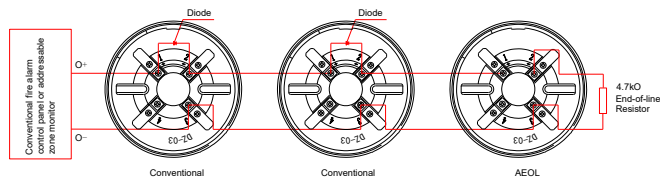

Fig. 7
- ✧ When the detector is to be connected with conventional fire alarm control panel (the equipment inside the dotted lines is equivalent to a conventional FACP) or addressable zone monitor unit in series through an end of line resistor connected to the end of loop, there should be no diode connected on the base. The system connection is shown in Fig. 7.